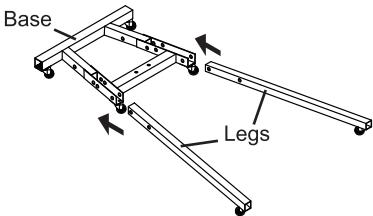

Figure 4
- Slide Legs (23) into front of the Base (15). See Figure 4.